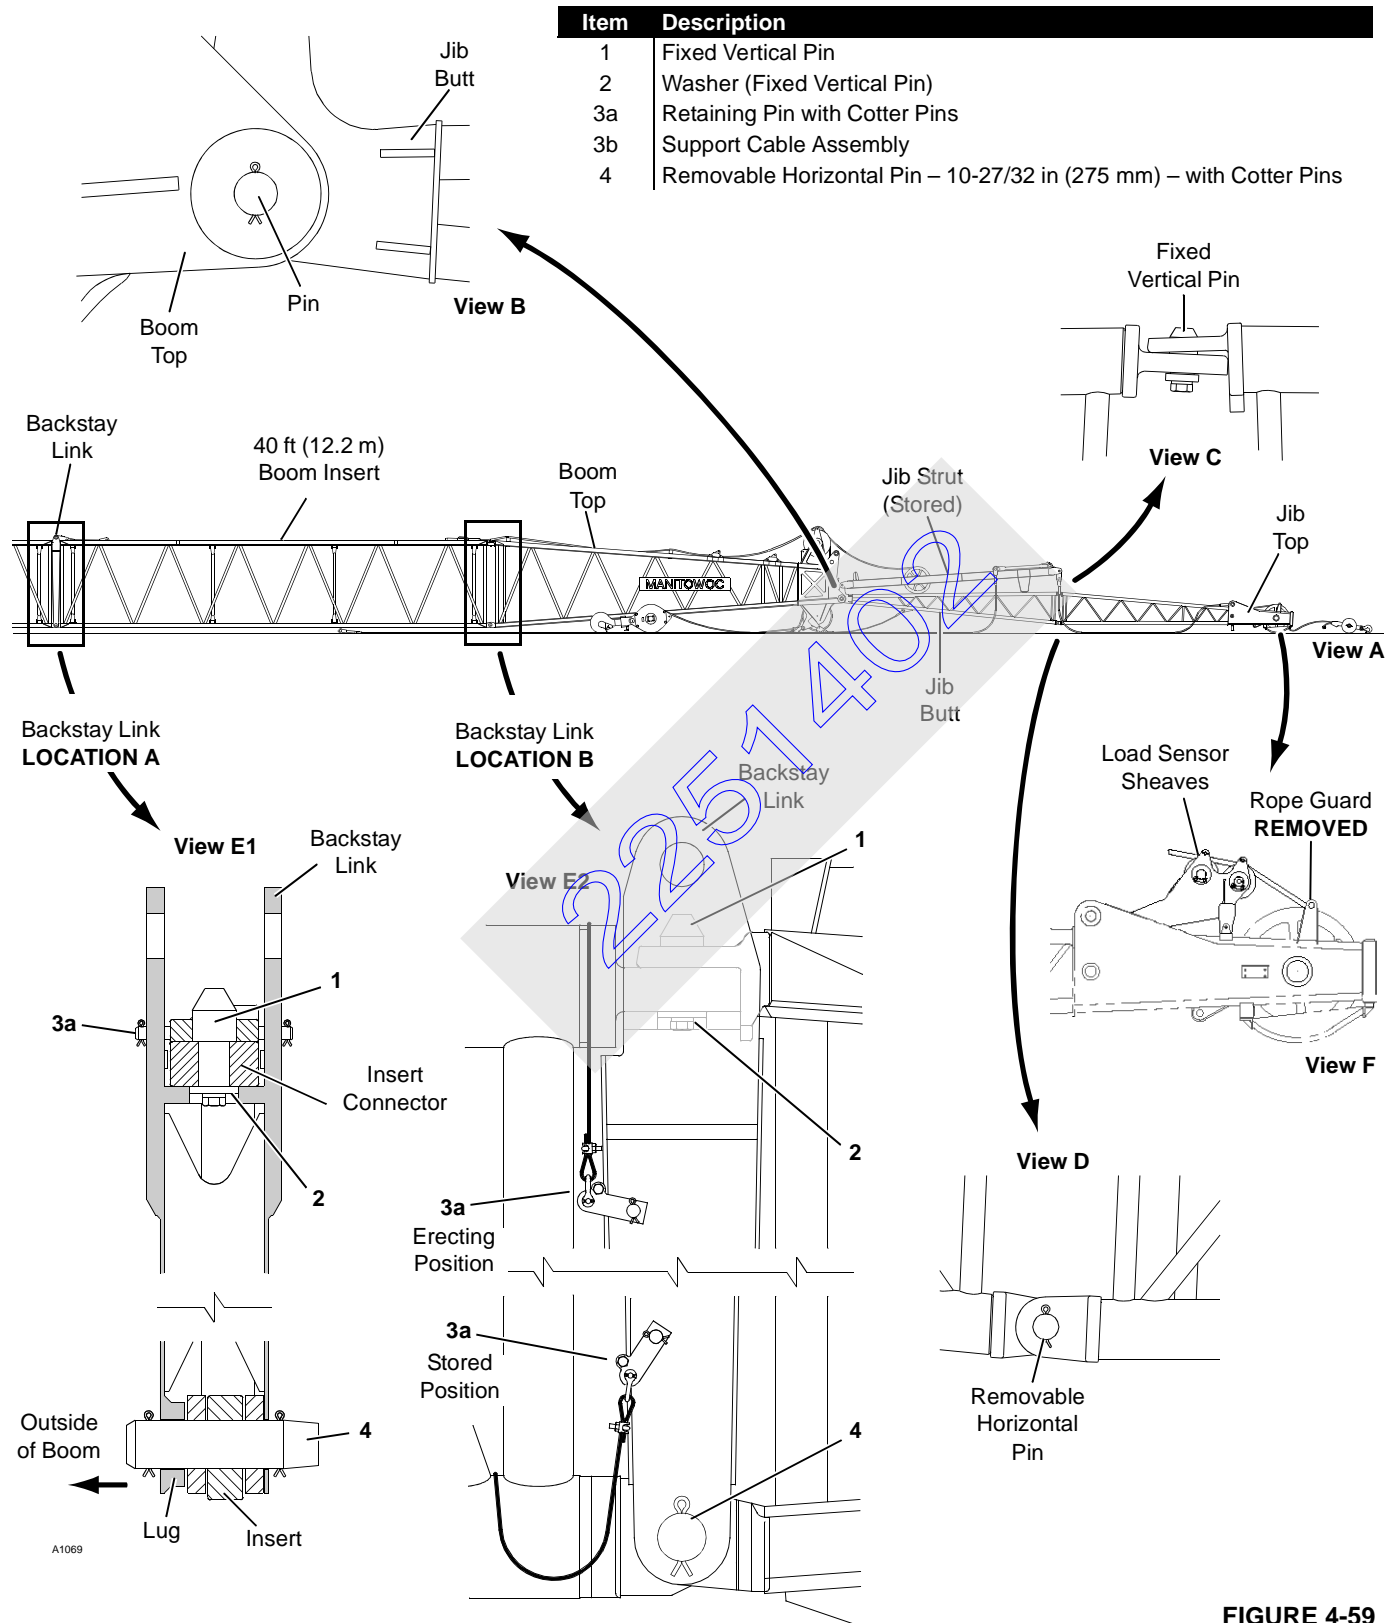

FIGURE 4-59
5. For heavy lift top only, install jib backstay links between boom sections at Location A or B, Figure 4-59. **See Jib Assembly Drawing for proper mounting location.**
Lug at bottom connecting holes in link must be toward outside of boom. (Figure 4-59, View E1).
- c. Lift backstay link upward and engage hole in link with washer (2, Figure 4-59, View E1) on underside of insert connector.
- d. For Location A, install retaining pin (3a, Figure 4-59, View E1) through holes on butt side of link to prevent link from falling off insert.
For Location B, move support cable assembly (3b, Figure 4-59, View E2) from stored position to erecting position to prevent link from falling off insert. If necessary, adjust cable length so bottom connecting holes are aligned when assist crane is disconnected.
Replace standard horizontal connecting pins with 10-27/32 in (275 mm) long pins (4, Figure 4-59, View E) supplied with backstay links.
NOTE: The jib strut is shipped in the stored position on the jib butt (Figure 4-59, View A).
2. Align holes in jib butt with holes in boom top and install connecting pins (Figure 4-59, View B).
- The top connectors are joined by fixed vertical pins that hook into holes in the adjacent section (Figure 4-59, View C).
- The bottom connectors are joined by removable horizontal pins (Figure 4-59, View D).